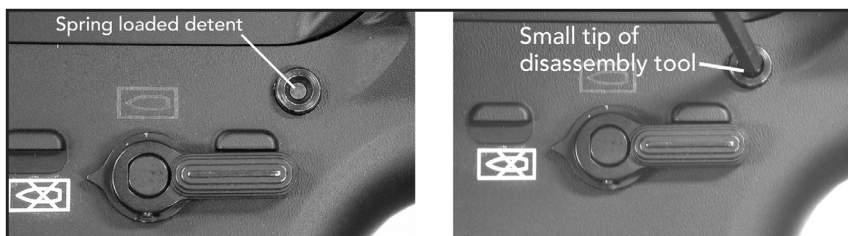

Fig. 68 – Detail of the rear Takedown Pin showing spring loaded detent.
- d. Insert the small tip of the disassembly tool into the spring loaded detent located in the center of the pivot pin. While pushing on the disassembly tool, drift the pivot pin from right to left until the pivot pin reaches its limit of lateral travel. The tip of the pivot pin should be visible on the left hand side of the lower receiver (Fig. 68).